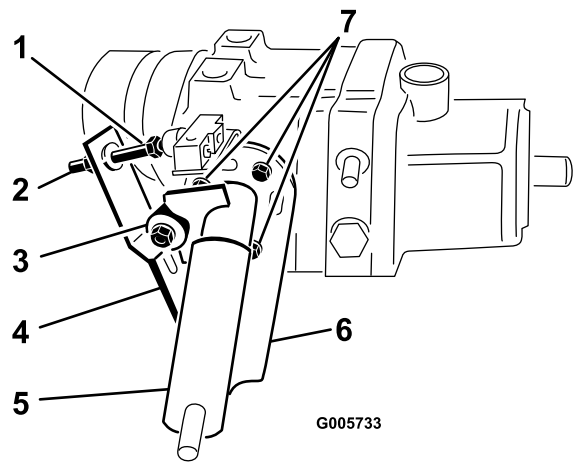

Figure 70
1. Park vehicle on a level surface and turn engine off. Apply the parking brake, tip seat forward, and actuate pump lever (Figure 70) to ensure assembly is properly seated and operating freely. Correct any discrepancy.
6. Because the wheel is rotating, the pump plate must be adjusted. But before adjusting the pump plate, move throttle to SLOW. If wheel is rotating forward, loosen capscrews, and lightly tap bottom of pump plate counterclockwise (Figure 70). By contrast, tap pump plate clockwise if wheel is rotating backward (Figure 70). When wheel stops rotating, tighten capscrews holding pump plate against side of transmission. Verify the adjustment with throttle in SLOW and FAST position.
- Ball bearing is loose or worn out (Figure 70).
- Weak or damaged leaf springs (Figure 70). Replace.
2. Actuate the pump lever (Figure 70) to ensure all parts are operating freely and seated properly.
3. Loosen jam nut. Rotate switch adjusting screw (Figure 70) until there is a gap between head of screw and switch button.